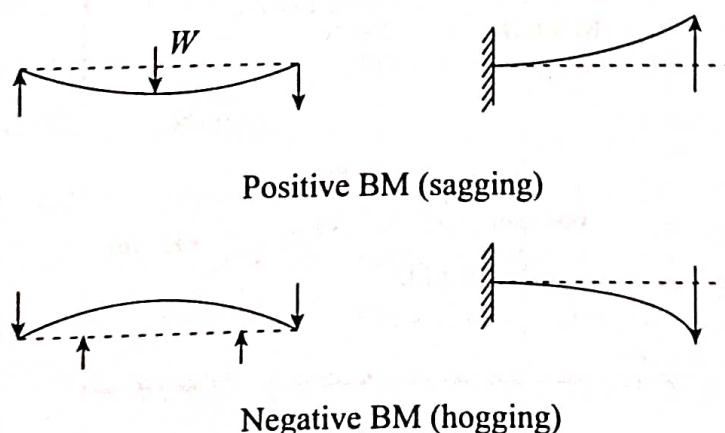

Figure 6.3
The bending moment (BM) which tends to cause the beam concave upwards, sometimes called *sagging*, will be considered *positive* and that which tends to cause the beam concave *downwards*, sometimes called *hogging*, will be considered *negative* (see Fig. 6.3). Notice that this diagram also gives the sign convention for cantilever beams.